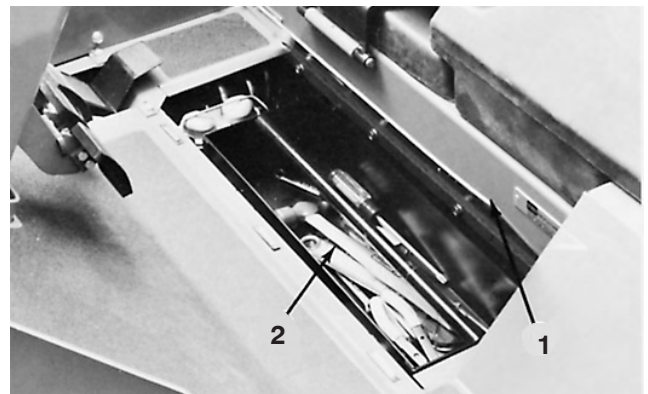
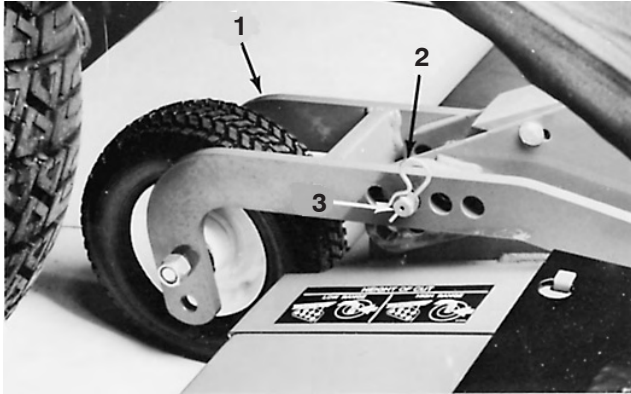

Figure 59
Figure 63
1. Raise floor panel in front of seat (Fig. 59). Remove tool tray.
2. Remove deck tilt link from tool box under traction unit floor (Fig. 59) and klik pins from weldments on traction unit frame and cutting unit lift arm.
3. Remove hairpin cotters and clevis pins from the (2) rear castor assemblies (Fig. 63). Set the left hand clevis pin aside and insert the right hand clevis pin into the most forward holes in the castor wheel arm on the right side of the unit (Fig. 59). The castor arm and pin should be resting on top of the unit.